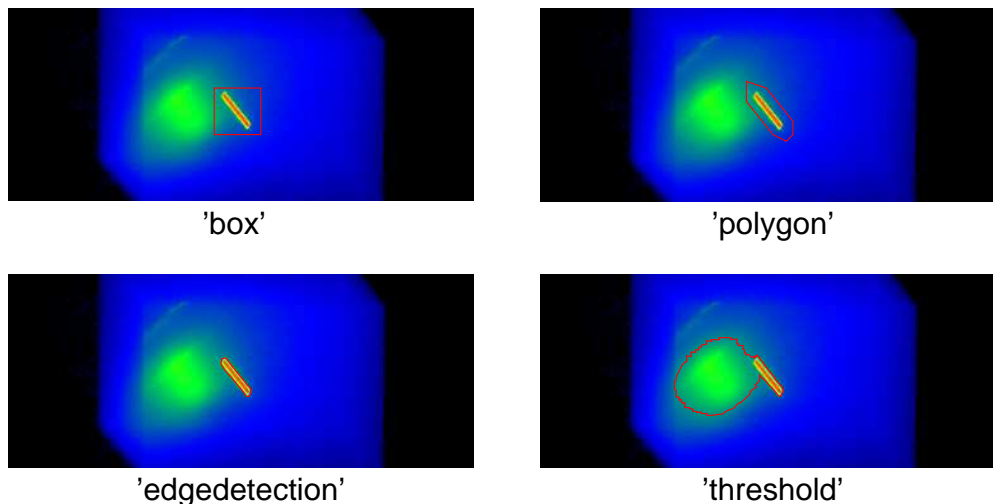

Figure 2.2: The four different methods for defining a region of interest.
- `<method>` – Optional input parameter defining how the roi is created (see Fig. 2.2):